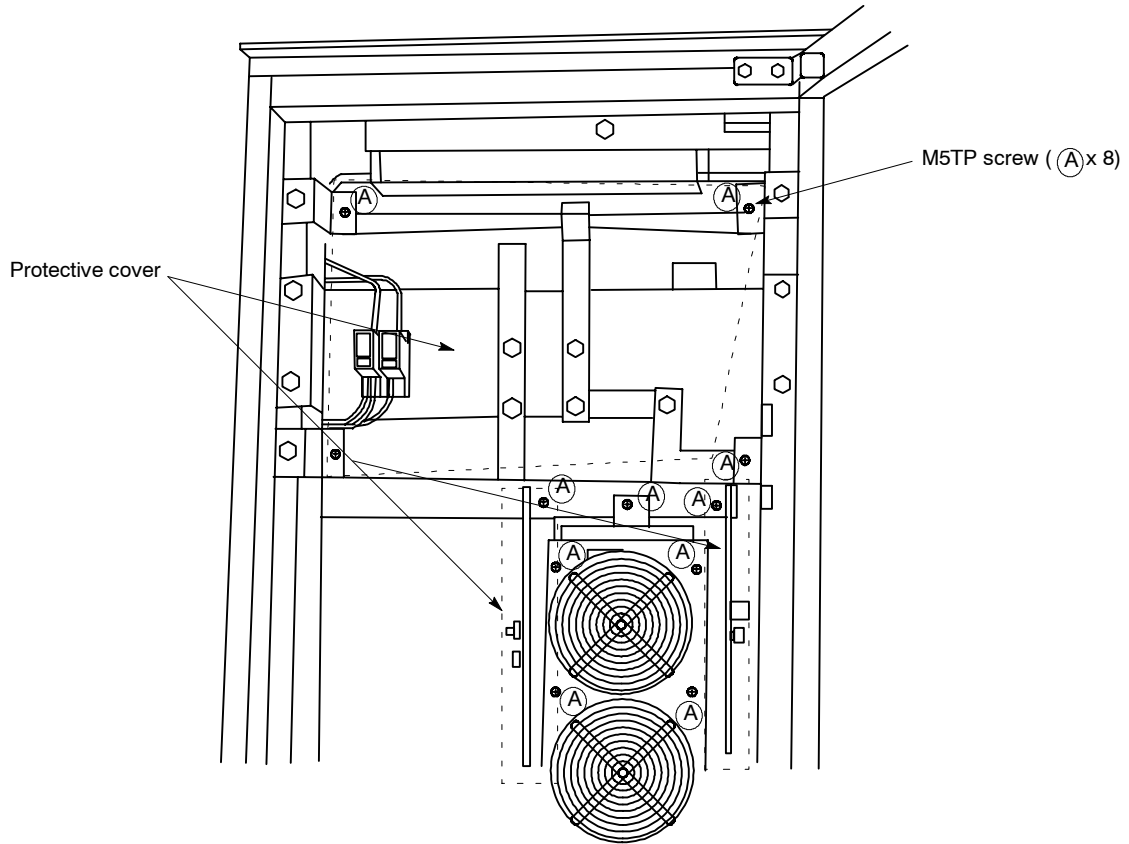

Fig 10.5
1. Loosen the M5 screws shown in Figures 10.5 and 10.6, and then remove the protective cover.